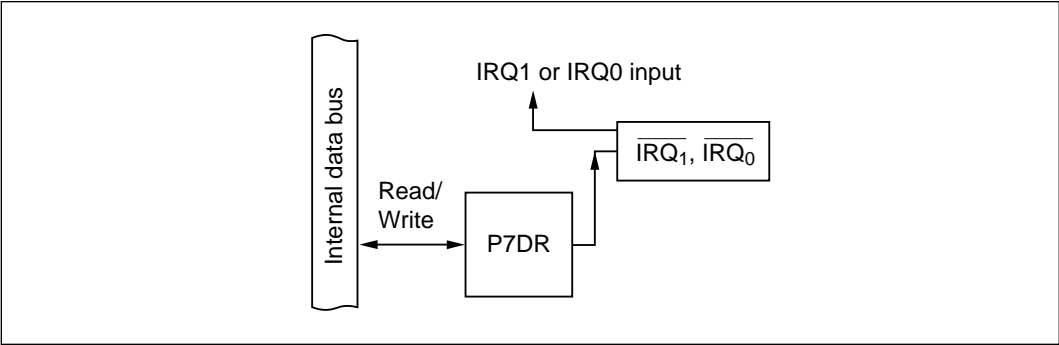

Figure 10-47 $\overline{\text{IRQ}}_1$ or $\overline{\text{IRQ}}_0$ Input Combined with General-Purpose Output (Modes 1 to 7)
(3) $\overline{\text{IRQ}}_1$ or $\overline{\text{IRQ}}_0$ Input Combined with General-Purpose Output (P7_1 , P7_0 ; Modes 1 to 7): Figure 10-47 shows a block diagram illustrating the $\overline{\text{IRQ}}_1$ and $\overline{\text{IRQ}}_0$ input function when combined with general-purpose output. Table 10-38 indicates register read/write data. When P7_1 and P7_0 are used for $\overline{\text{IRQ}}_1$ and $\overline{\text{IRQ}}_0$ input they can also function as general-purpose output ports. If the general-purpose output function is used, however, output of a falling edge will cause an interrupt.